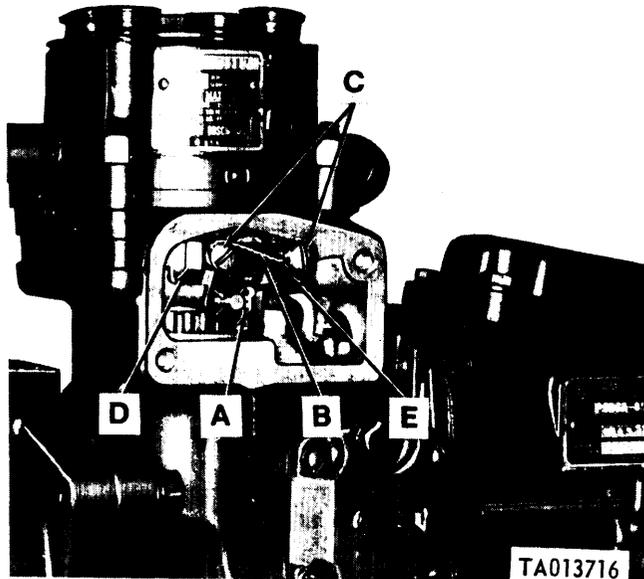

Figure 3-6. Removing fuel control unit assembly.
3-8. Removal of Fuel Control Unit Assembly. Refer to figure 3-6. Remove retaining pin (A). Cut locking wire (B) and remove two screws and lockwashers (C). Remove control unit retainer (D) and fuel control unit assembly (E).